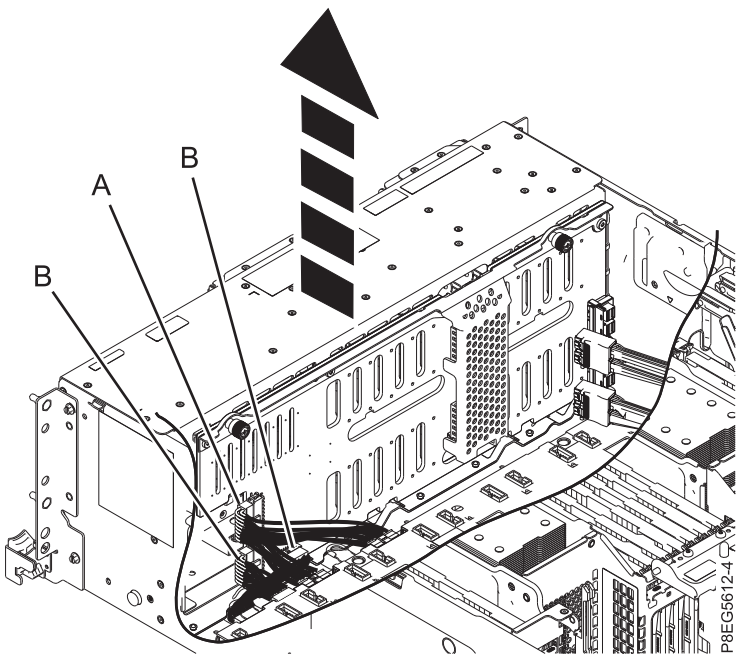

Figure 61. Removing the power, signal, and control panel cables
6. Label and remove the power, signal, and control panel cables (**A**), and the power Y cable (**B**), from the disk drive backplane and system backplane. Refer to Figure 61.